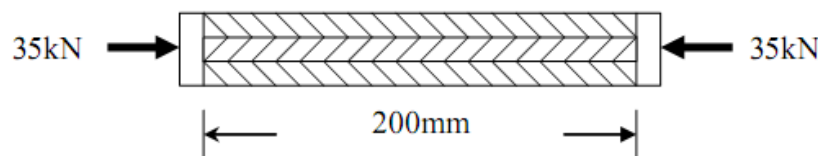

Fig.2
- 5 A steel flat 24 mm x 6 mm in section riveted between two aluminum flats of same size at a temperature of 288 K is shown in fig 2. If this assembly is subjected to a compressive force of 35kN, find the stresses developed in each material. To what temperature the assembly can be raised that the stresses in the materials due to the load are nullified.  $E_s = E_{Al} = 210$  GPa.  $\alpha_s = 12 \times 10^{-6}/K$  and  $\alpha_{Al} = 23 \times 10^{-6}/K$ .